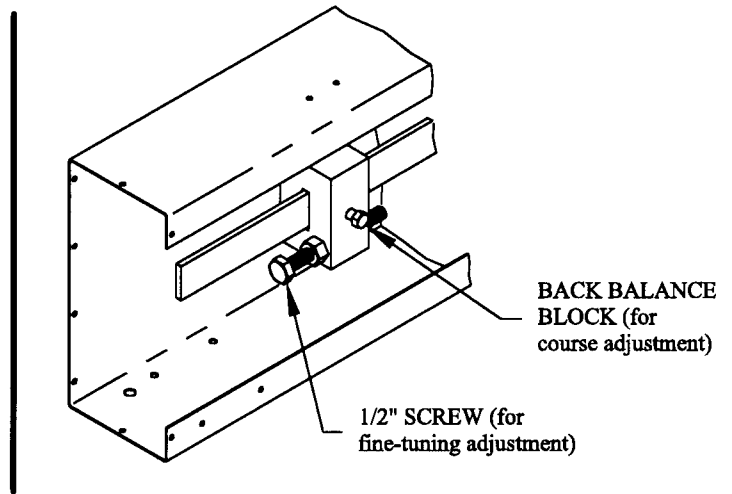
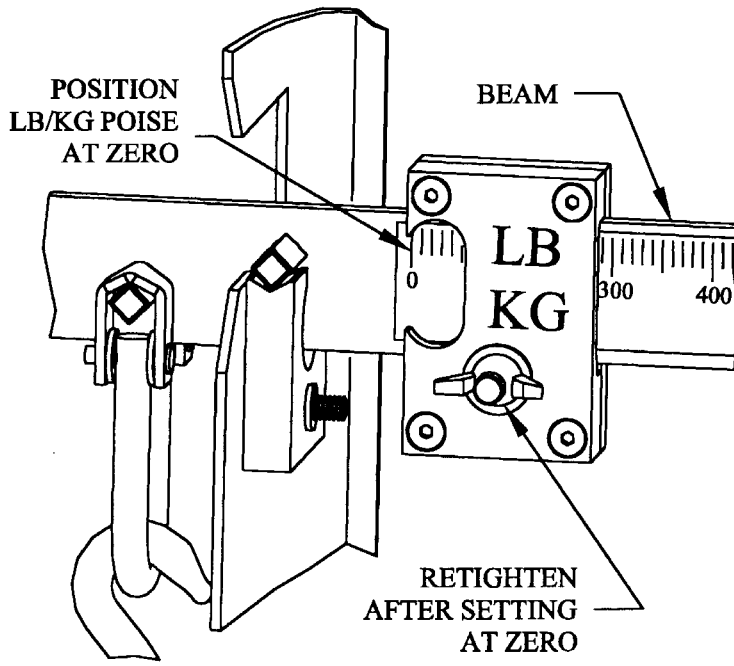
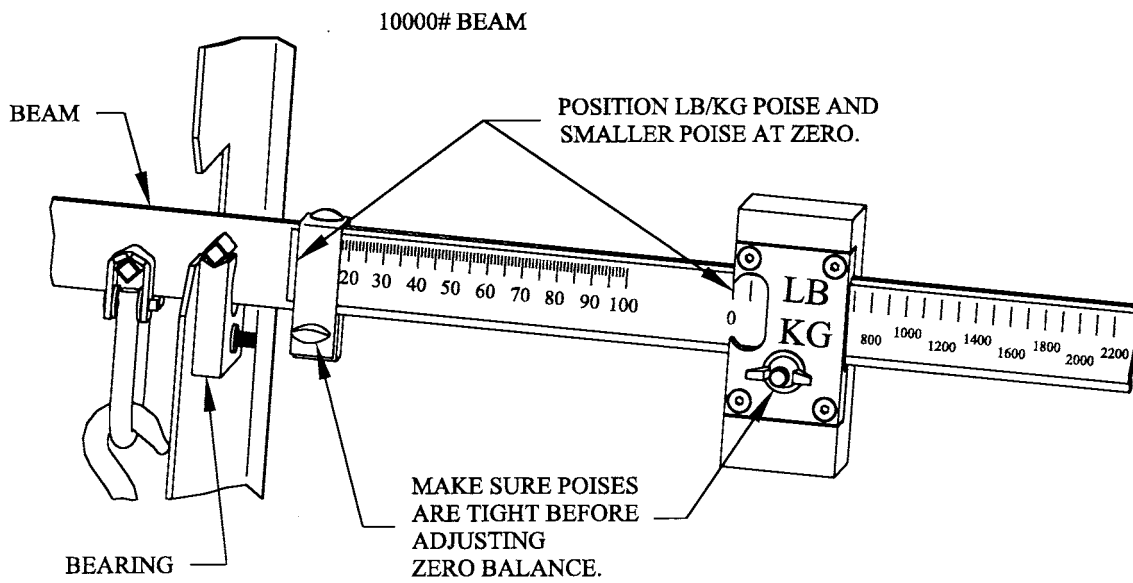

FIG. 4B
FIG. 3A
FIG. 3B
STEP 3. Slide the poise back to zero on the beam. See Fig. 3A. For a 10000# or 20000# beam slide both poises back to zero. See Fig. 3B.
- 8) Balancing the scale for the first time to zero. Slide the poise to zero on the beam and tighten. See Fig. 3A (Calibration section – pages 18-22). Loosen the back balance set screw and move the block forward or backward to get the beam close to balancing. Tighten the set screw. Use the 1/2" screw for the final balance. Tighten the 3/4" nut. See Fig.4B (Calibration section – pages 18-22). Make sure the beam floats freely and repeats.